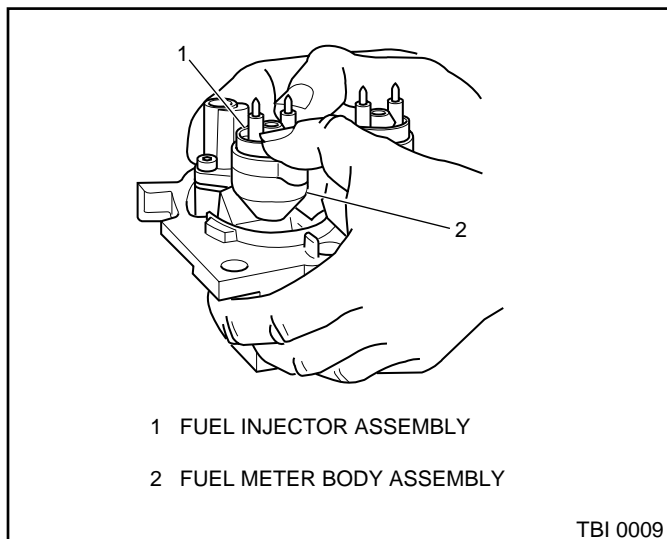

Figure 3-16 - Installing Fuel Injector
4. Injector, aligning raised lug on each injector base with notch in the fuel meter body cavity. Push down on injector until it is fully seated in fuel meter body (Figure 3-16). Injector electrical terminals should be parallel with the throttle shaft.